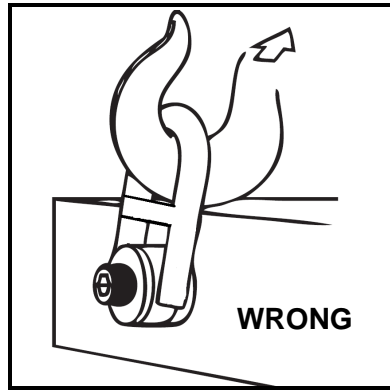

Figure 2
- Apply partial load and check proper rotation and alignment. There should be no interference between load (work piece) and hoist ring bail (Fig. 2).